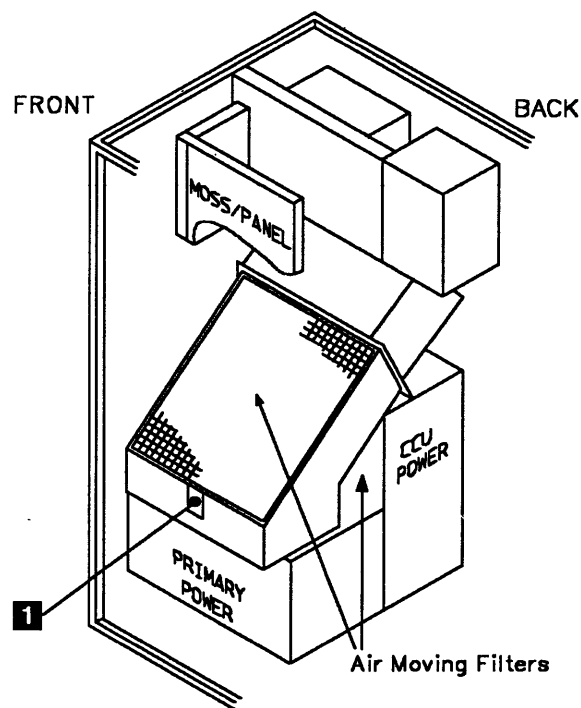
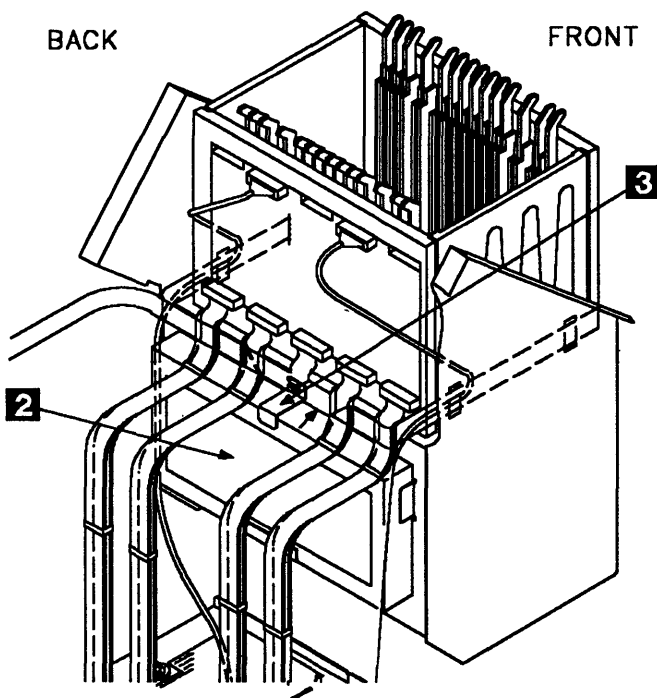

Figure 5-74. Air Filter locations
Figure 5-75. Back Air Filter location
2. Locate the front air moving device filter, refer to Figure 5-74.
8. Locate the back air moving device filter **2**. Refer to Figure 5-74 on page 5-81 and Figure 5-75.